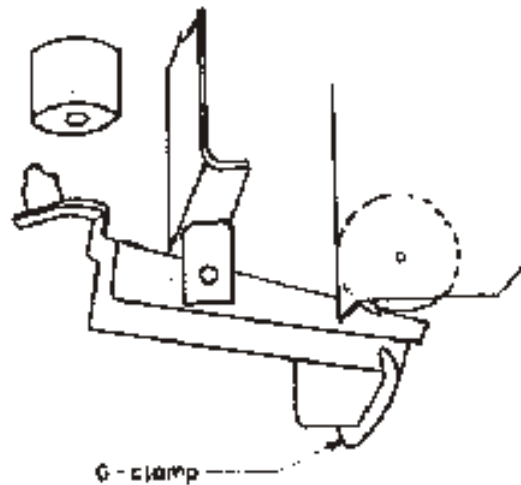

Fig 22
When replacing the damping device, the closing spring must be charged. For this work the release mechanism for the spring unit must be secured, see figure 22. Securing the device can be achieved with a G-clamp.
3. Lock and secure the release mechanism according to figure 22. Be extremely careful that hands are kept clear of the mechanism and the springs in case of release.